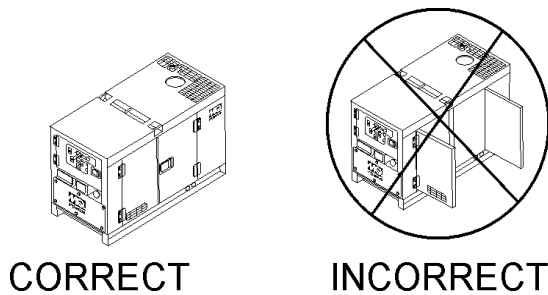

Figure 15. Engine Enclosure Doors
4. Close all engine enclosure doors (Figure 15).